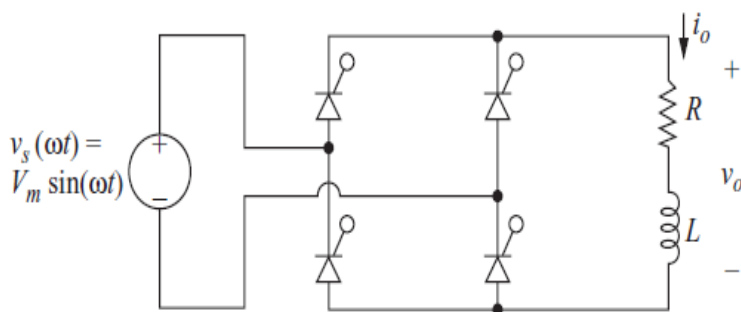

Figure Q 3A
- 3A. For the circuit shown in Figure Q 3A assume continuous load current and arbitrary firing angle. i) Draw the output voltage waveform. ii) Derive the output voltage expression. iii) In which quadrants, the circuit will operate? iv) Repeat part i) and iii), if freewheeling diode is connected.